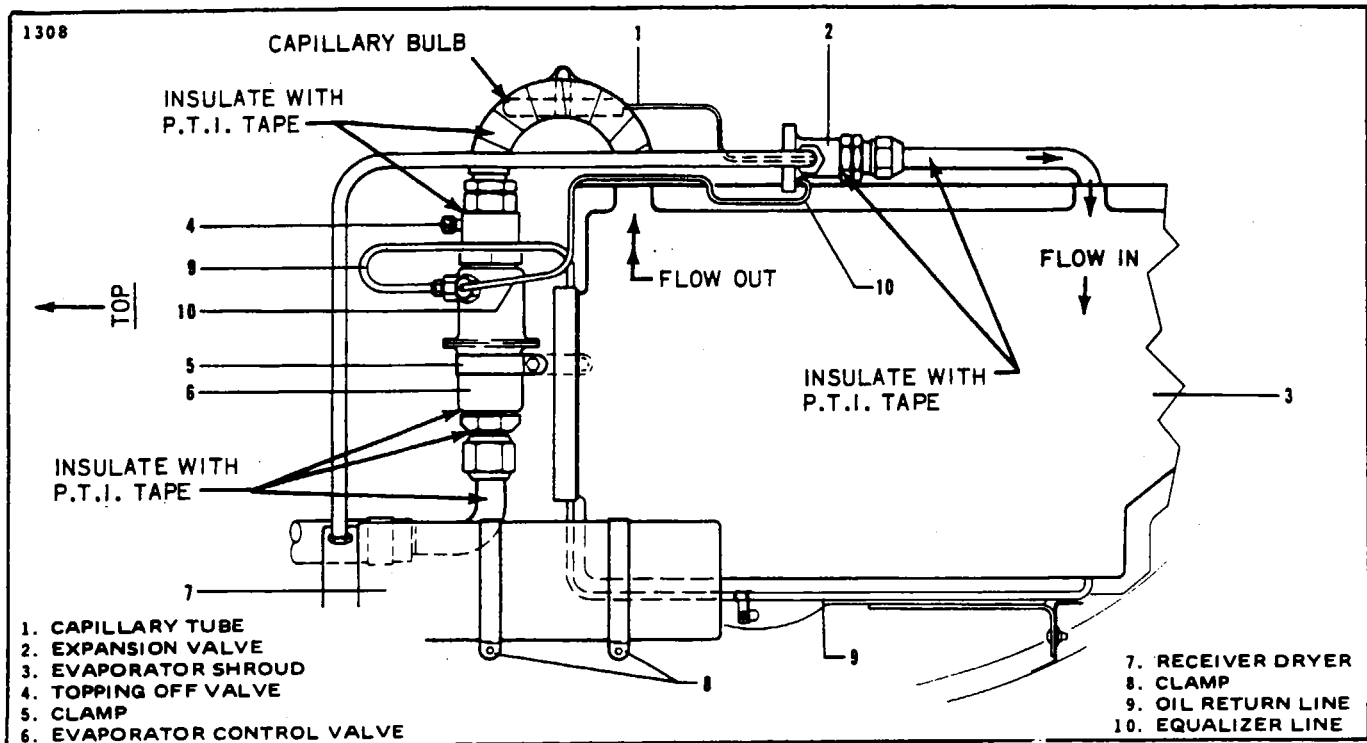

Figure 13-32. Component Installation
- a. Install the expansion valve to the evaporator and secure the capillary tube to the evaporator outlet line and apply Presstite insulating tape. (Refer to Figure 13-32.)
- a. Install the Evaporator Control Valve into the airplane as shown in Figure 13-32 and secure it to the evaporator with the existing clamp and connect the Freon lines to the valve.
- b. Apply the Presstite insulating tape around the valve and related lines as shown in Figure 13-32.
- b. Install the expansion valve and Evaporator Control Valve to the evaporator shroud as shown in Figure 13-32.